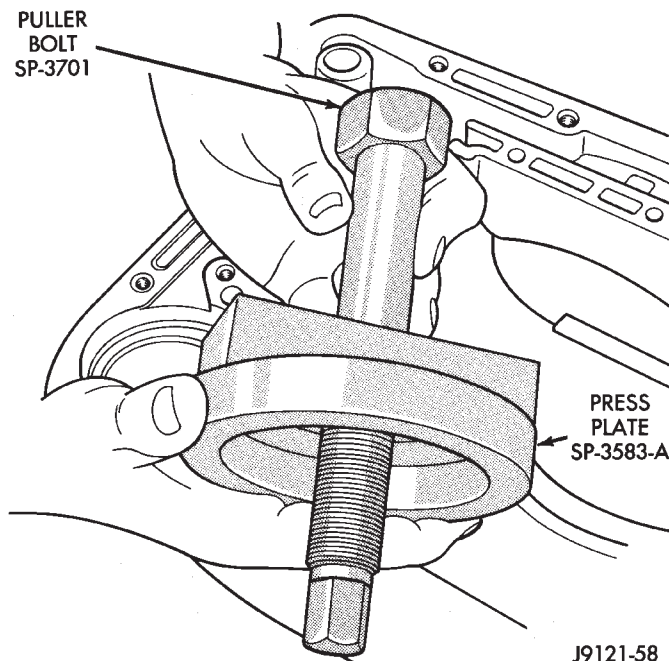

Fig. 149 Assembling Clutch Cam Puller Bolt And Press Plate
(5) Assemble Puller Bolt SP-3701 and Press Plate SP-3583-A (Fig. 149).